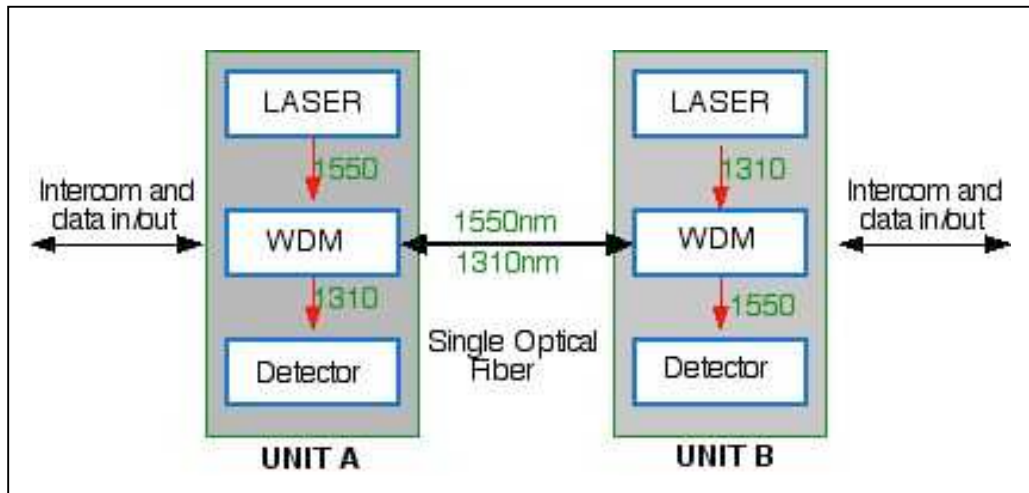

Figure 2: Single Fiber operation
- One fiber connection with optically combined bidirectional signals at 1300/1550 nm as shown in Figure 2.